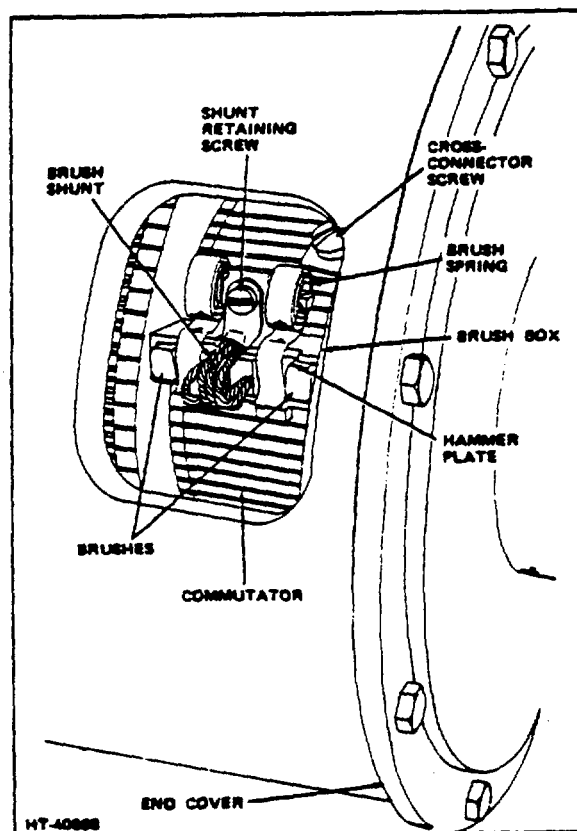

Figure 2-1. Brush Location
6. Check brush shunt (Fig 2-1) for good contact with the brush holder. Make certain shunt is not damaged or burned. This may cause pressure spring to carry current and lose tension; good spring pressure is vital to motor operation. (For proper brush spring pressure, refer to following SPECIFICATION CHART.)